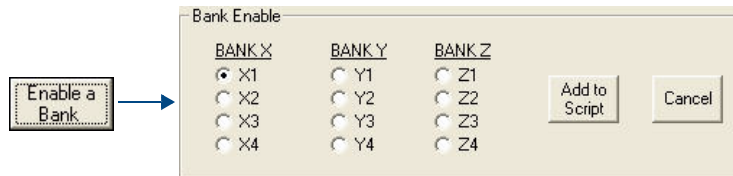

FIG. 94 Displaying the Bank Enable options
2. Click the **Enable a Bank** command button to display the *Bank Enable* options (FIG. 94):